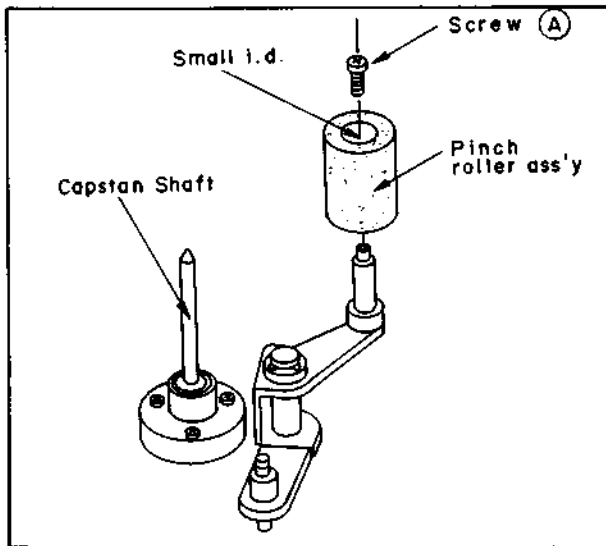

Fig. 5-27
1. Remove screw (A) and pinch roller assembly.
2. Carefully install a new roller assembly (refer to Fig. 5-27).